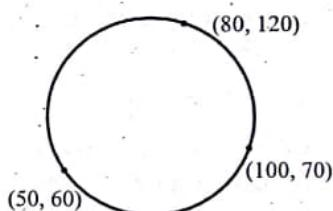

FIG 14.8
**Example :** Draw a circle passing through 3 points having coordinate (50, 60); (100, 70) and (80, 120). Refer figure 14.8.